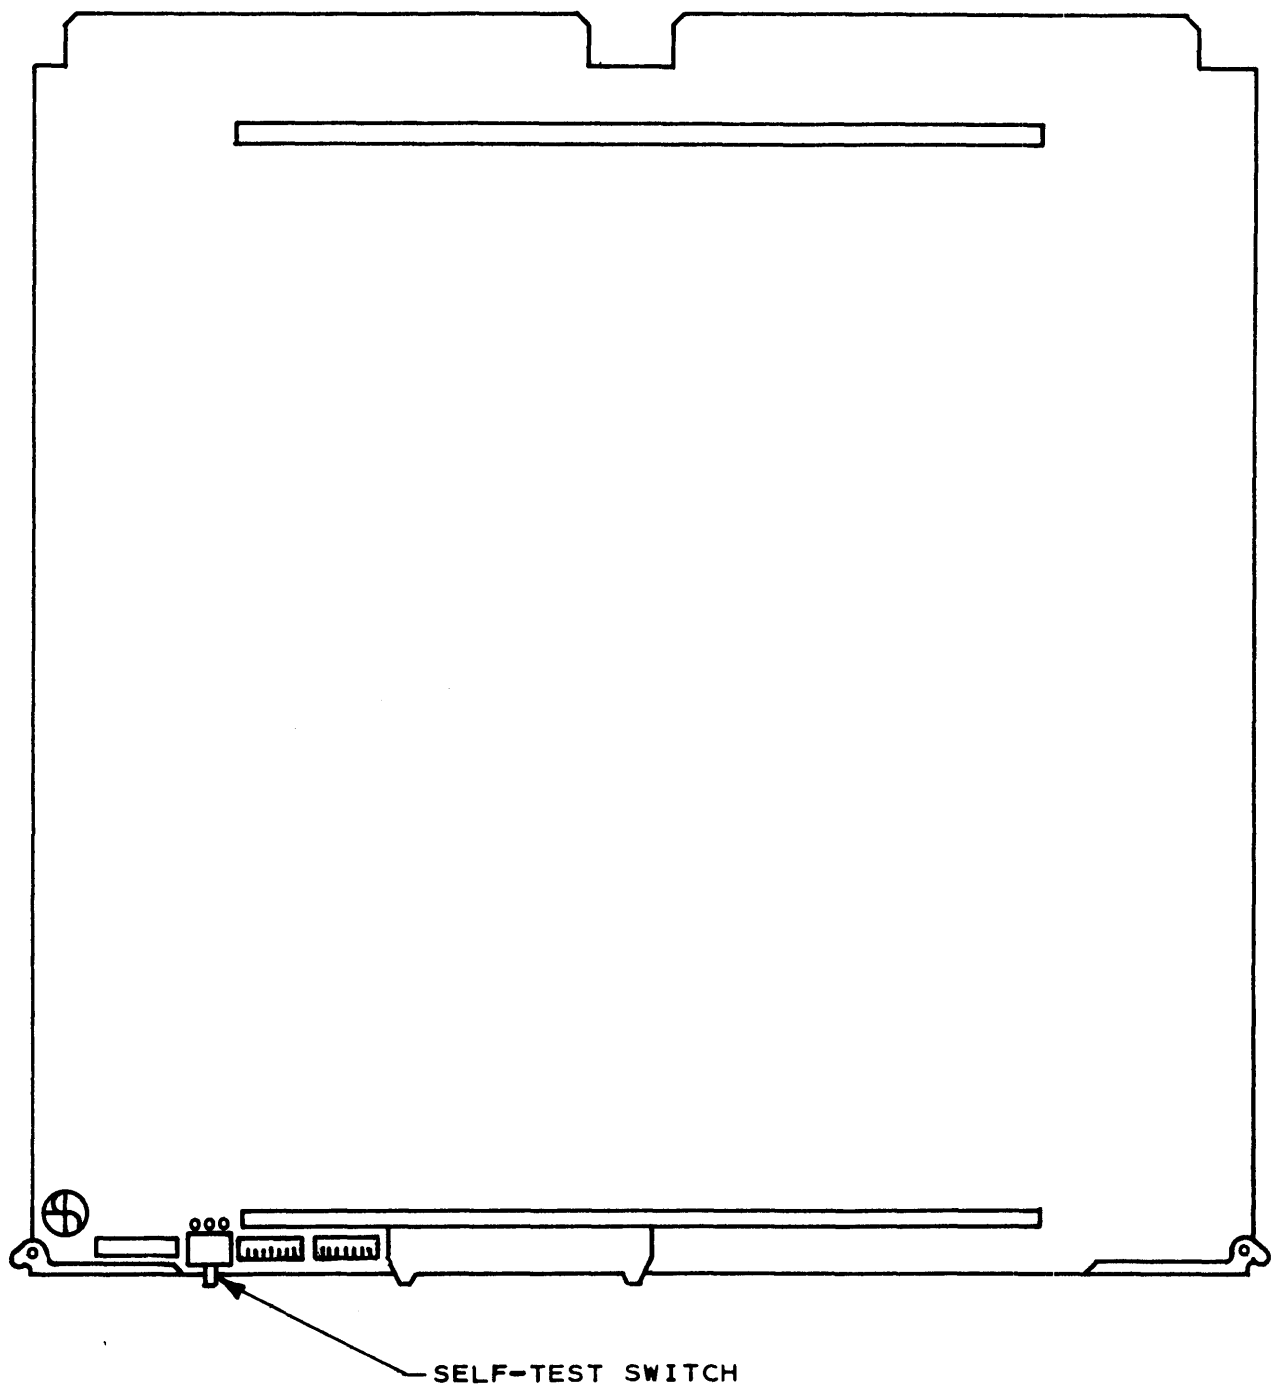

FIGURE 4-7. POINT 4 SELF-TEST SWITCH LOCATION
2. Locate the Self-Test switch on the front edge of the CPU board. See Figure 4-7 for Self-Test switch location. Press this switch and simultaneously press the APL switch on the processor Mini-panel. This will cause loading of the Self-Test Program into main memory.